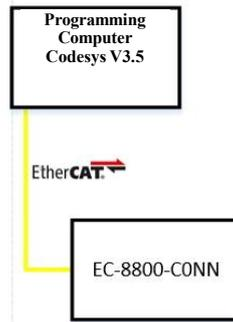

Fig. 5-1-8 Communication Link Diagram
1. See Fig. 5-1-8 for the communication link diagram.